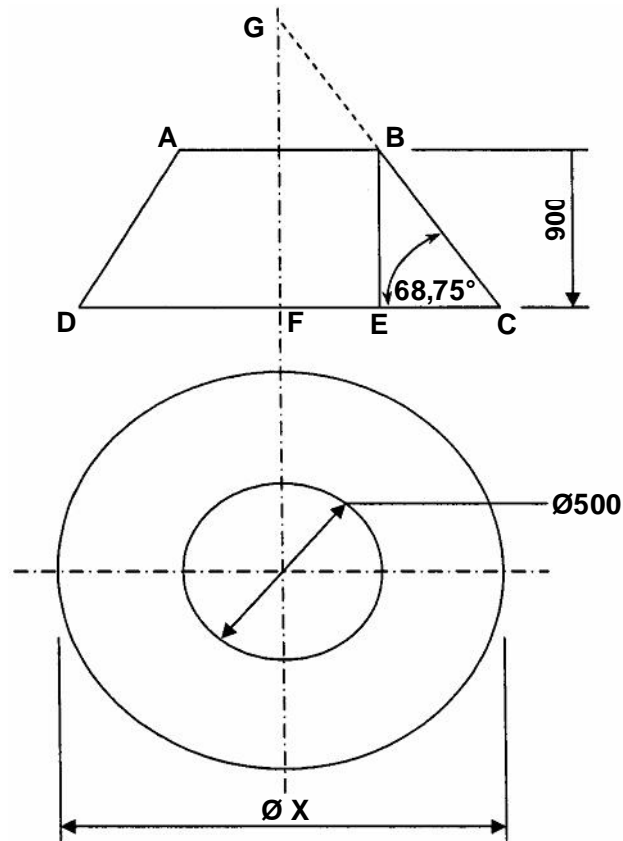

Figure 5
6.1 The following drawing (**Figure 5**) indicates a cone. The cone is 900 mm high with a small diameter of 500 mm at the top (AB). Use sin, cos or tan to prove the following calculations: